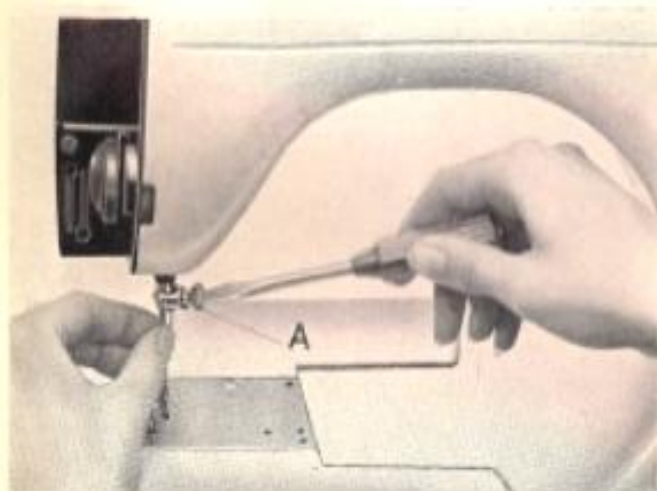

Fig. 7
- b) Loosen screw « A » and insert the needle (Fig. 7) into the groove pushing it up as far as it will go.